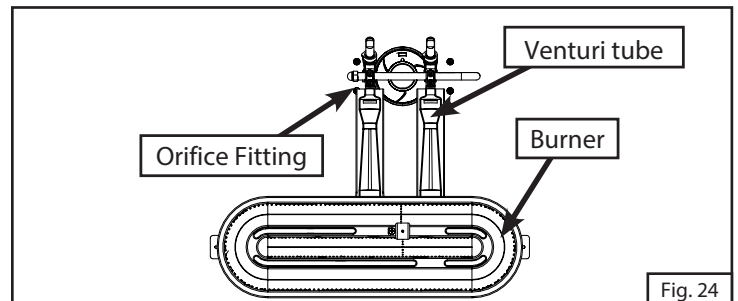

Fig. 24
- Proper location of the burner with respect to the orifice is important. To verify the proper installation of the Venturi tube. The Venturi tube must be located over the orifice fitting. See Fig. 24 (control panel not shown).